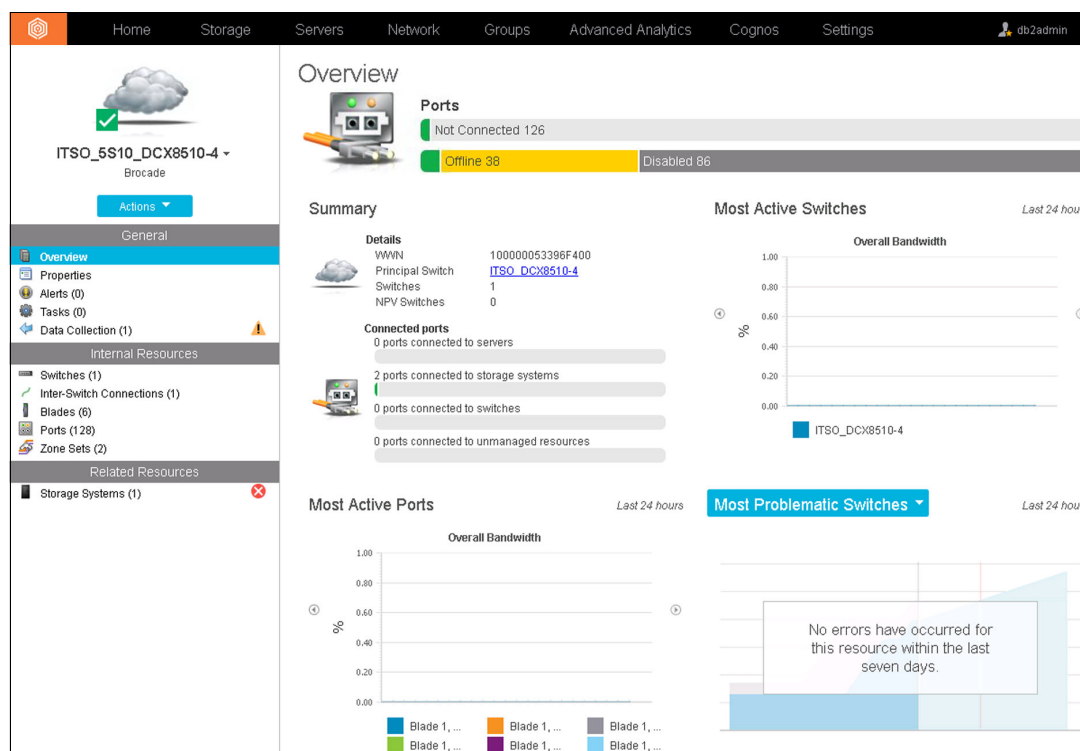

Figure 6-27 Main view of the Overview section
- Overview: When selected, this section presents you with multiple views displayed on the region C of the window that provide the user a quick insight of the overall fabric health and behavior. The default view selection is Summary. Figure 6-27 shows the Overview section.